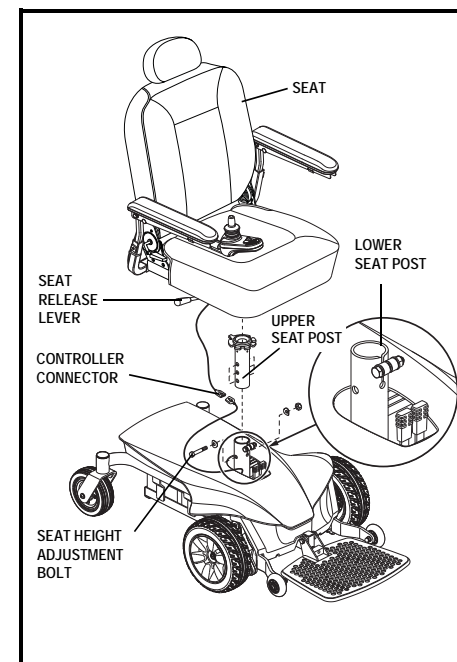

Figure 12. Seat Height Adjustment
3. Disconnect the controller connector from the power base. **See figure 12.**
4. Disengage the seat release lever. **See figure 12.**
5. Loosen the hardware at the rear of the seat post. **See figure 12.**
6. Remove the seat height adjustment bolt, washers, and nuts from the seat post. **See figure 12.**